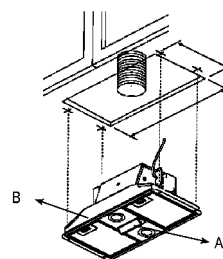

Fig. 2
2. Make the electrical connection (fig. 2). The range hood is equipped with 1 or 2 leads: TFMH with one lead for the supply source. Besides TFH with 1 lead for use for external ventilator.
3. Decide where to place the control panel (fig. 2, A, B):
4. Fit the range hood (fig. 2) in the opening and only attach it to the cabinet with 4 of the enclosed screws (there are 8 screws enclosed, which are necessary for the 80cm model).